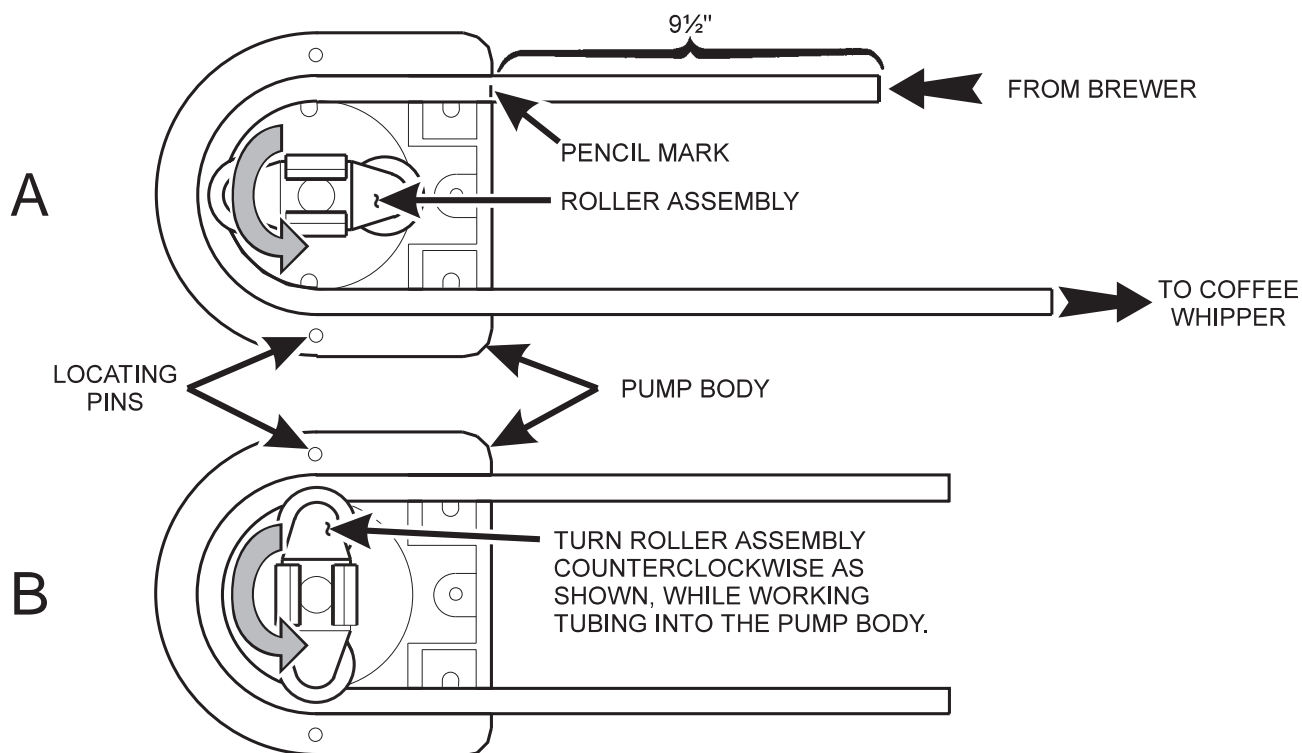

Figure 3
6. Install the pump tubing into the pump body (see figure 3):